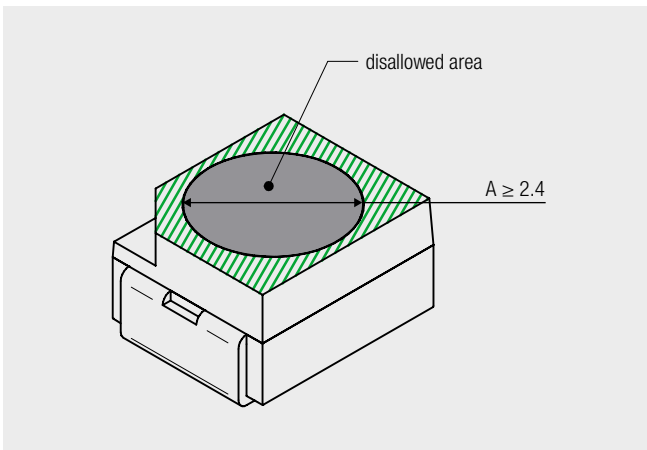
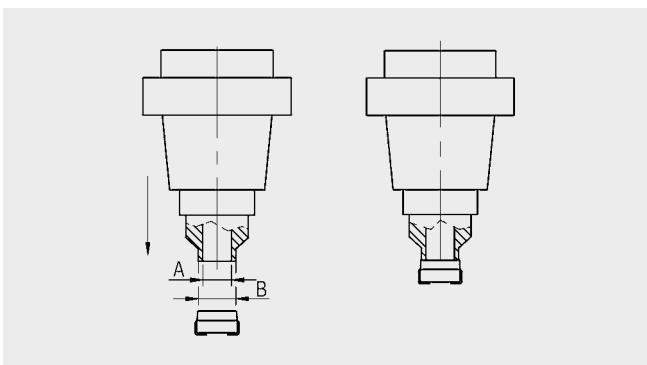

Figure 1: Allowed and disallowed area of LED
Figure 2: Recommended nozzle diameter
During the automatic pick and place process, the influence of mechanical stress on the surface must be minimized as much as possible. LEDs with a silicone resin provide many advantages. Compared to other reflector areas of Surface Mount LEDs, silicone is generally softer. Due to this fact, the handling area of the nozzle should only contact the Plastic Leaded Chip Carrier (PLCC) surface directly and is not allowed to touch the silicone encapsulation of the component (see Figure 1, grey is disallowed area). Therefore the inner diameter of the nozzle (A) should be bigger or equal than the disallowed area (see Figure 2, nozzle diameters). It is recommended to use a nozzle for PLCC LEDs in size 3528 with an inner diameter of  $A \geq 2.4$  mm. Affected match codes are WL-SMTW, WL-SBTW and WL-SFTW. For ceramic components in size 3535 it is recommended to use a nozzle with an inner diameter of  $A \geq 3.2$  mm. There are no restrictions in regards of the shape of the nozzle, except that the mechanical pressure on the surface of the silicone must be avoided totally. In general, the nozzle must be larger than LEDs reflector. In cases of contact the LED might be damaged or in worst cases the LED will not light as usual and may affect reliability.